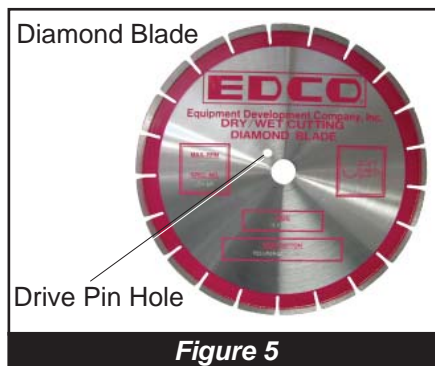

Figure 5
- Check diamond blades for cracks, loose segments and oversize, worn, or out-of-round arbor holes (**See Figure 3 on page 5**). Do not use **any** questionable blade since serious injury and/or damage to property can result. Do not use warped, twisted, or out-of-balance blades. Unbalanced blades will wear excessively, vibrate and damage both arbor shaft and bearings. Do not use a blade without a drive pinhole (**Figure 5**).
Inspect the blades before installing. Check diamond blades for cracks, loose segments and oversize, worn, or out-of-round arbor holes (**Figure 3 on page 5**). Do not use any questionable blade since serious personal injury and/or damage to property can result. Do not use warped, twisted, or out-of-balance blades. Unbalanced blades will wear excessively, vibrate and damage both arbor shaft and bearings. Do not use a blade without a drive pinhole (**Figure 5**).